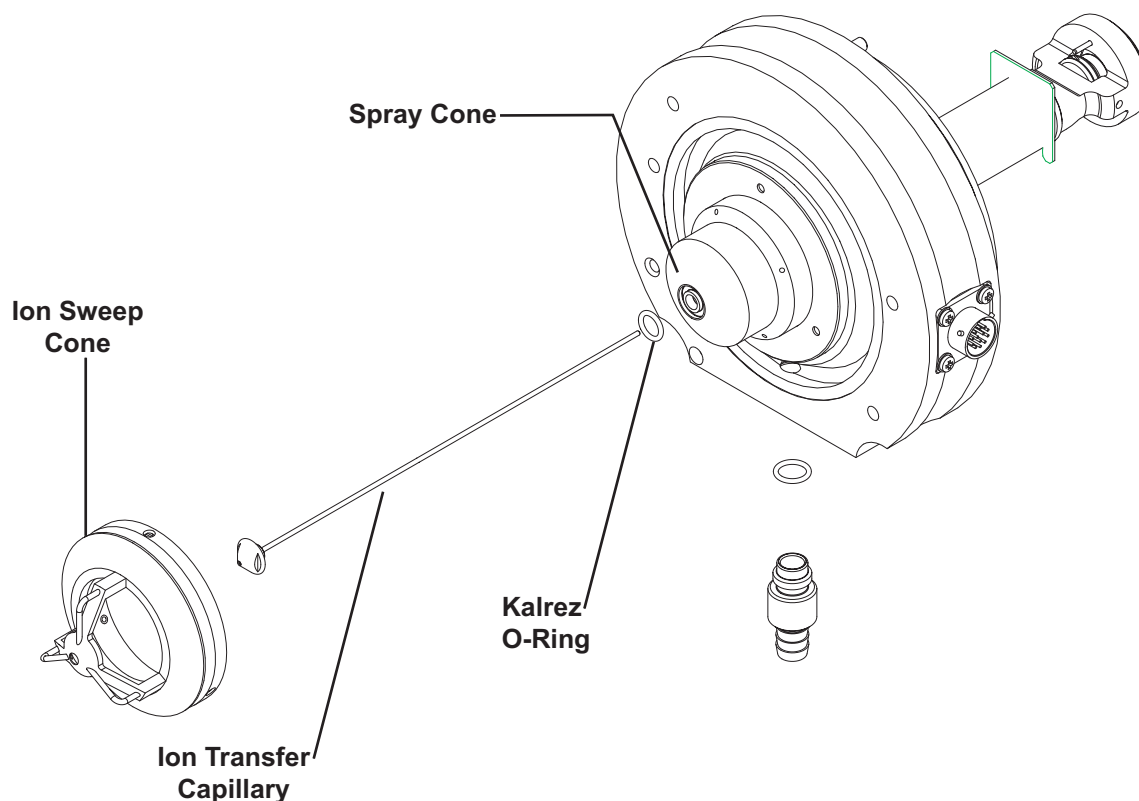

Figure 5-3. Exploded view of the front of the API stack
11. Reinstall the ion transfer capillary. See Figure 5-3. Replace the Kalrez O-ring (P/N 00107-12750) if necessary. Refer to the topic **Maintaining the API Stack** on page 5-11.